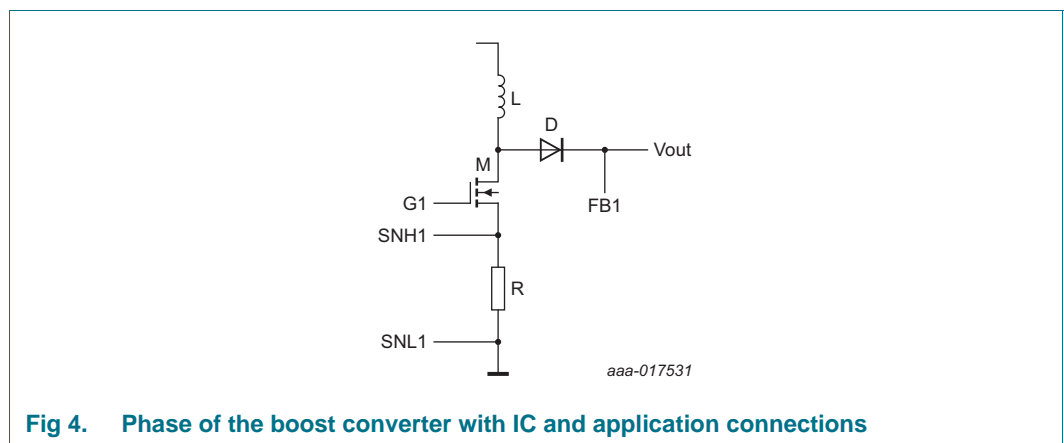

Fig 4. Phase of the boost converter with IC and application connections
- [2] See Figure 4 and Figure 14 for recommend connections for pin FB1.
The ASL1500SHN offers one phase. The phase consists of a coil, a resistor, a MOSFET and a diode as shown in Figure 4.